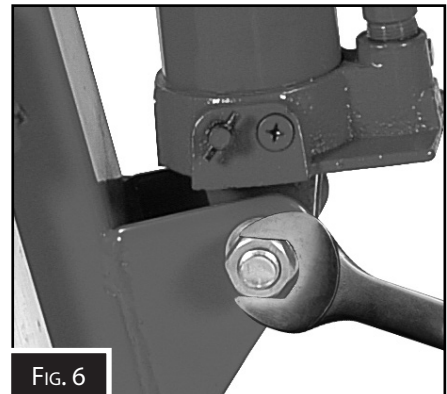

FIG. 6
4. Fix the bottom of the hydraulic jack to the main post by lining up the holes in the base of the jack and the mounting plate on the main post. (Fig. 6)